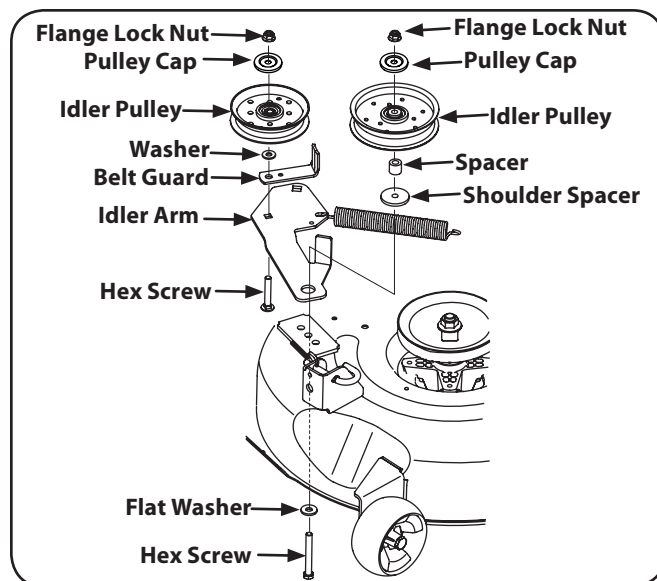

Figure 7-10
3. Remove the two idler pulleys by removing the hex screws and flange lock nuts that secure them to the deck and the idler arm. See Fig. 7-10. Do not lose any of the hardware when removing the hex screw and flange lock nut.
- Place the belt around the idler pulleys removed in step 3 with the "V" side facing in. Once in place, reinstall all the hardware and tighten the flange lock nut to secure the assembly. See Fig. 7-10.
- Route the belt as shown in Figure 7-10 and then reinstall the deck.